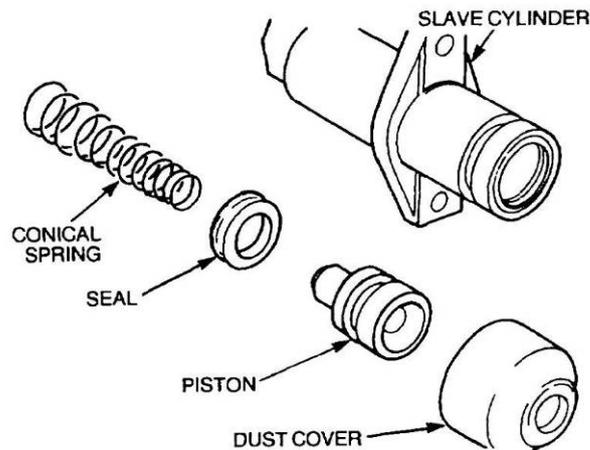

Figure 159 Slave Cylinder - Exploded View
- b. Remove the dust cover and the piston assembly from the slave cylinder (Figure 159). If necessary, apply a low air pressure to the inlet port to expel the piston. Remove the seal from the piston and discard the seal.
- b. Assemble the conical spring, a new seal and the piston in the sequence shown (Figure 159).